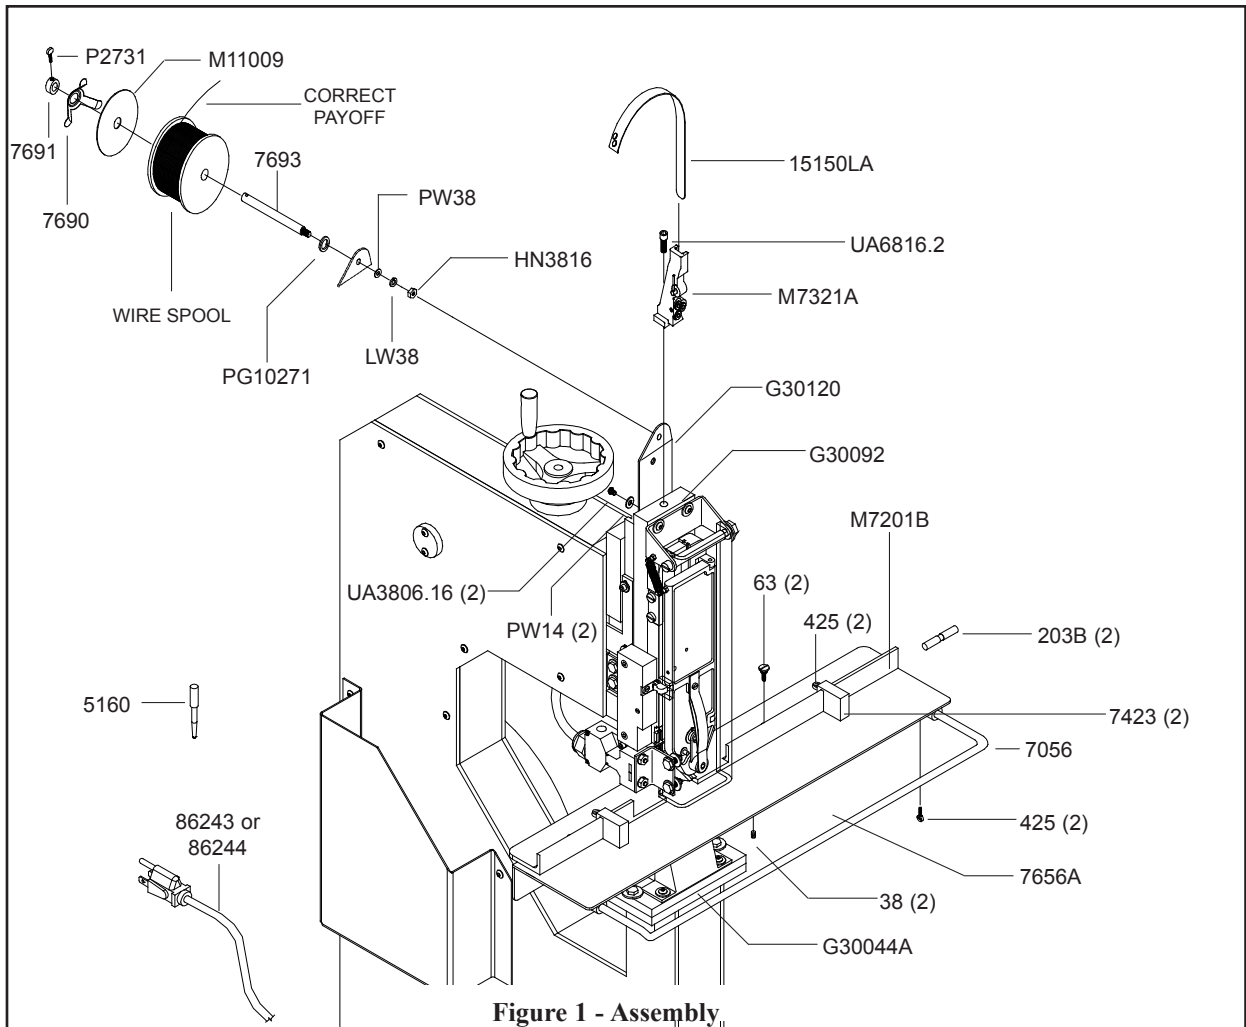

Figure 1 - Assembly11
As you carefully unpack the machine, check to make sure all components were delivered and are in good working order. Refer to **figure 1** in this manual for reference to the following pieces:
### Assembly (Figure 1)
Some assembly is required upon delivery of the M7 Stitcher. You will need a flat screwdriver, 5/32" and 3/8 hex head wrenches and a 9/16 open end wrench. Line up the hole in the Wire Straightener Assembly (M7321A) with the screw hole in the Head Mounting Plate (G30092). Secure the assembly with the Socket Head Cap Screw (UA6816.2). Assemble the Wire Spool Bracket (G30120) to the back of the Head Mounting Plate with two (2) Screws (UA3806.16) inserted through two (2) 1/4 Washers (PW14). Remove the Flat Washer (PW38), the Lock Washer (LW38) and the Plain Nut (HN3816) from the Spool Stud (7693) and insert it into the back of the Wire Spool Bracket. Secure the Spool Stud by replacing the Washers and the Nut. Loosen the Thumb Screw (P2731) in the Set Collar (7691) and remove it and the Tension Spring (7690) from the Spool Stud. Slide the Wire Spool over the Spool Stud, making sure that the Flat Washer (PG10271) and the Large Spool Stud Washer (2245) are between the Spool and the Wire Spool Bracket. Also verify that the wire payoff is identical to the payoff in Figure 1. Improper wire payoff will result in poor stitching. Slip the Plastic Washer (M11009) over the Spool Stud and replace the Tension Spring and Set Collar. Apply slight pressure on the Set Collar, pre-loading the Tension Spring, then tighten the Thumb Screw in the Set Collar until secured in position. A properly set Tension Spring will cause the Wire Guide Spring (15150LA) to flex but not actually hit the wire spool.